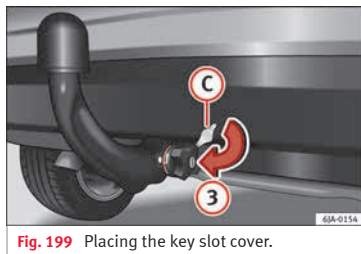

Fig. 199 Placing the key slot cover.
- Switch off the manual regulator lock with key (B) by turning the key fully to the right in the direction of arrow (1) – the arrow in the key displays the “locked” symbol.
- Remove the key in the direction of arrow (2).
- Place cover (C) over the manual regulator lock in the direction of arrow (3) » **Fig. 199**.